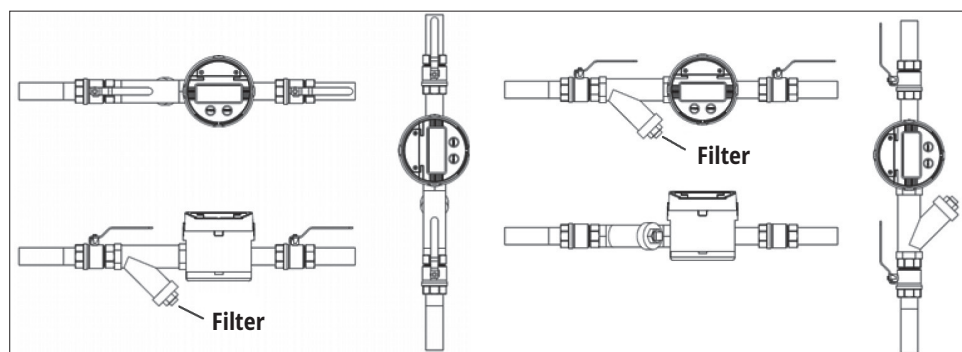

Fig. 1: Installation of the flow meter
- Install meters horizontally (→ Fig. 1).